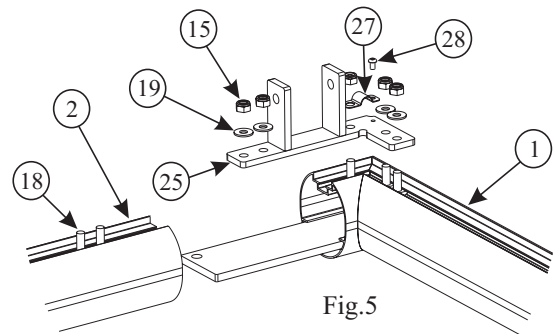

Fig.5
**4** **Assemble the Goal Frame** - Lay the Crossbar (1) and Uprights (2) on the floor, insert 3 Square Headed Bolts (18) into each end of the Crossbar and 4 into each Upright. Slide the Upright onto the protruding plate from the Crossbar and fit the correct handed Top Bracket (25 or 26) into place and secure with Washers (19) and Nuts (15). As shown in Fig 5 place 3G Stadium Net Holder (27) into position, this clip will also act as a washer.